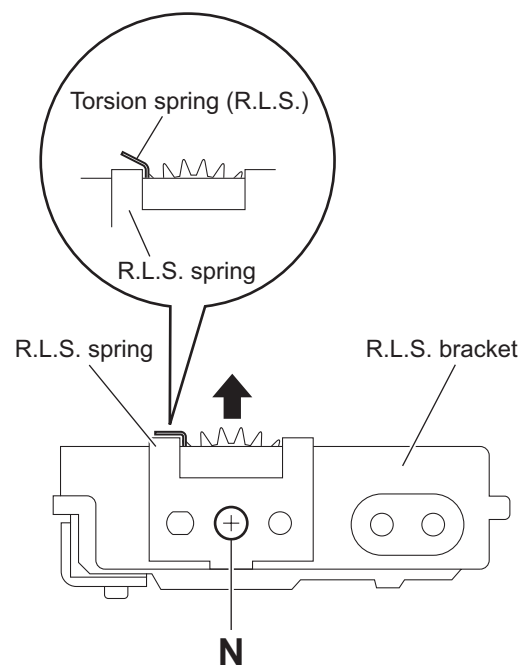

Fig.23
- (14) From the back side of the R.L.S. bracket, remove the screw **N** attaching the R.L.S. spring to the R.L.S. bracket and remove the R.L.S. spring in the direction of the arrow. (See Fig.23.)
When attaching the R.L.S. spring, hang the torsion spring (R.L.S.) on the R.L.S. spring as before. (See Fig.23.)